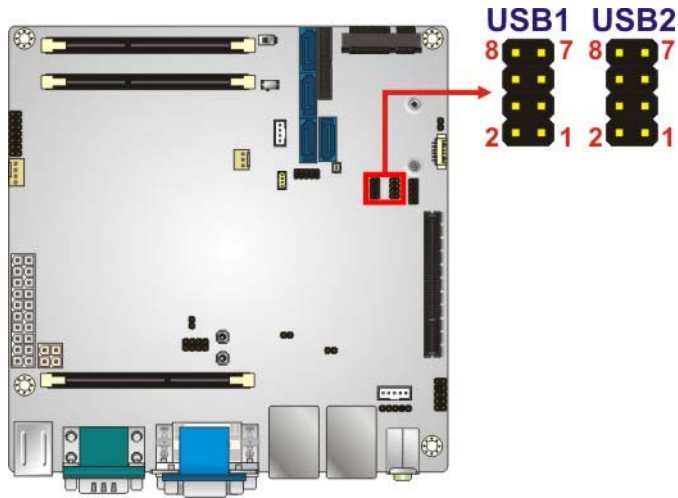

Figure 3-30: USB Connector Locations
- CN Location:** See **Figure 3-30**